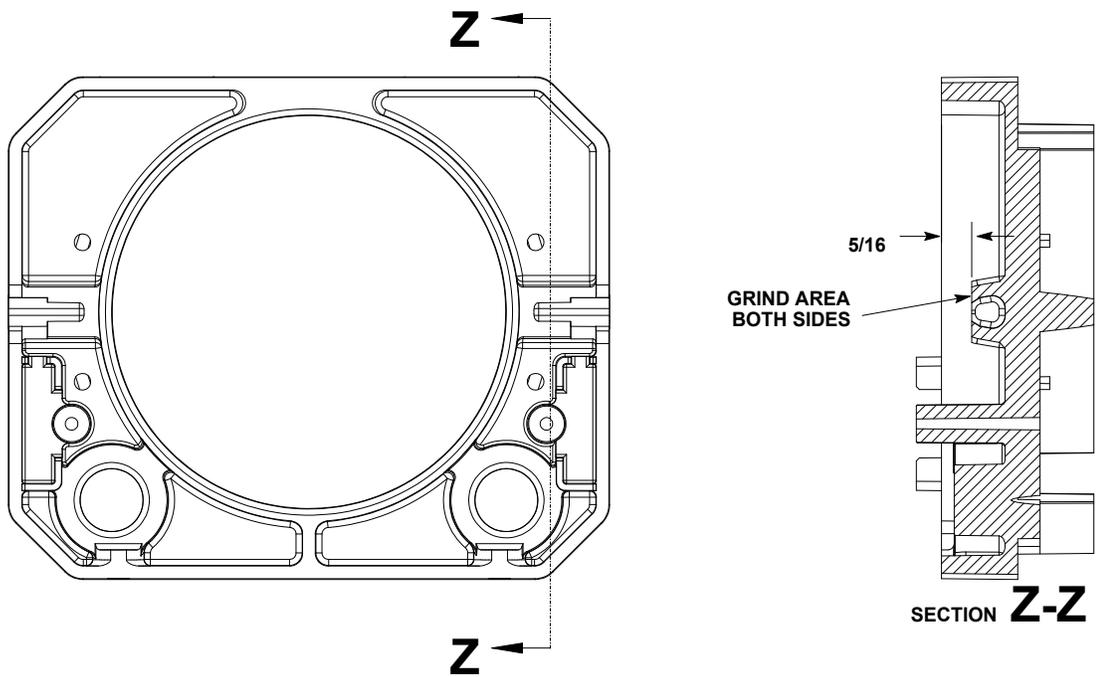

Figure 2.
4. Remove any remaining plastic from the top of the tower base retainer areas. Use a grinding wheel, file or hack saw (See Figure 2).